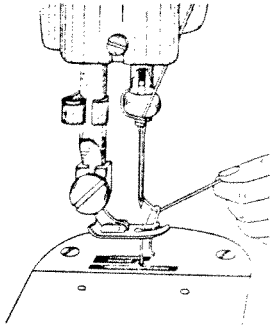

Fig. 9
2. Turn the balance wheel toward you until the bobbin thread comes up through the needle hole in a loop (Fig. 9).